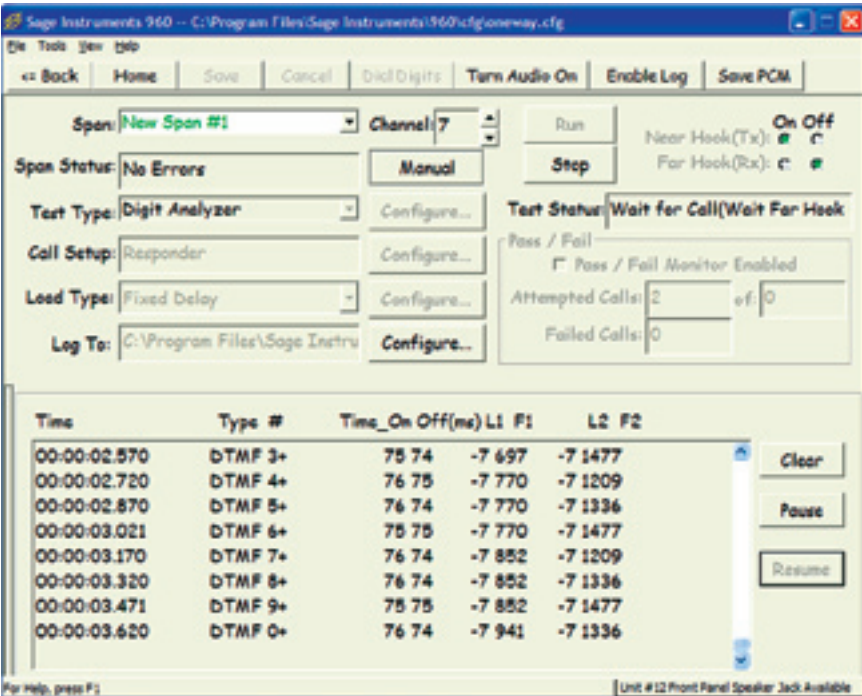

Figure 108
The SAGE 960B Digit Analyzer test utilizes five (5) screens for configuration of the test parameters (see figures 108 through 111).
Figure 108 shows the main test screen with the “Digit Analyzer” test selected and saved. When clicked the four (4) “Configure” buttons down the center of the main screen display the test set-up windows at right.